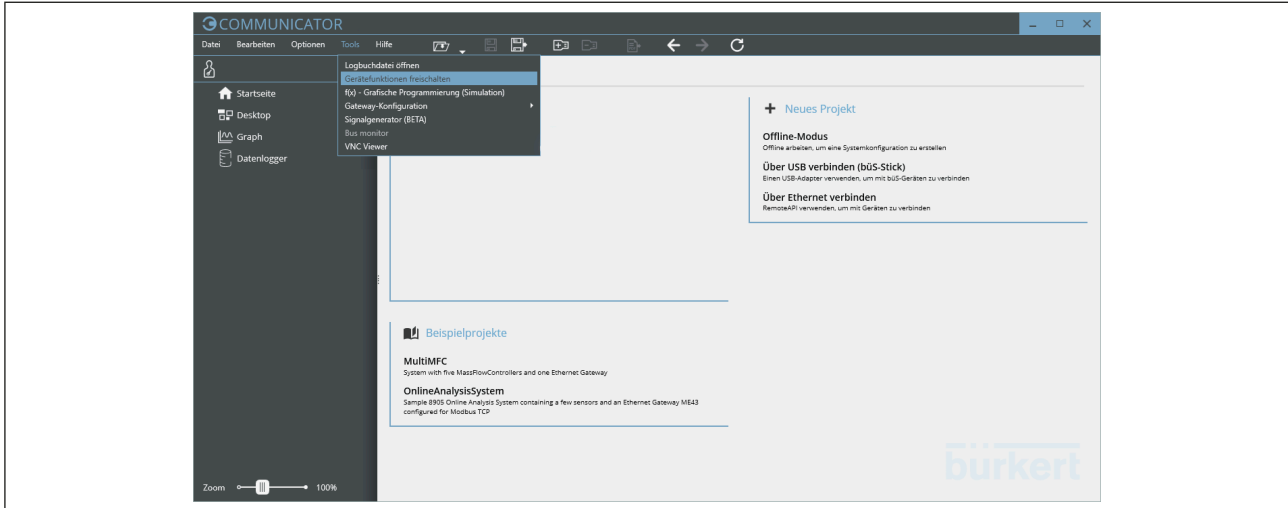

Fig. 50: Activate licence
- **Enable device functions** (see “Fig. 50: Activate licence”)